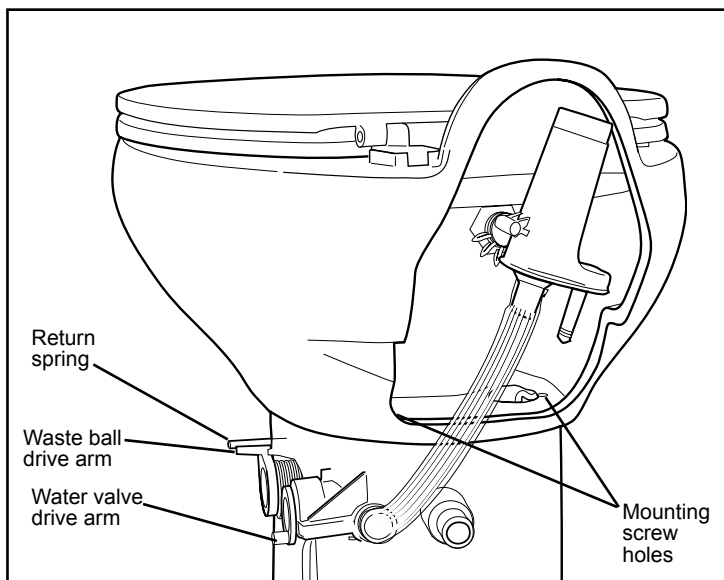

FIGURE 1
- ✓ Refer to Figures 1 and 2 for component locations.